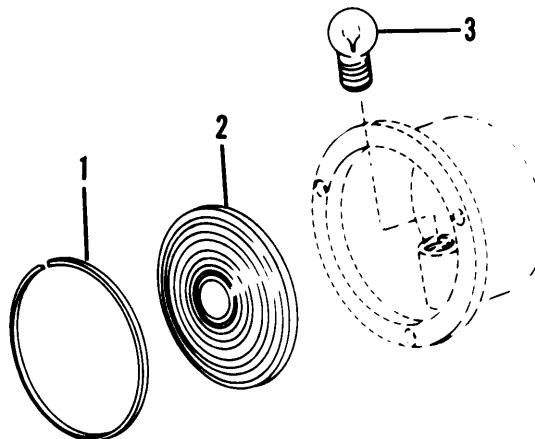

Figure 4-11. Taillight Assembly (M871 only)
(1) Remove snap ring (1, fig. 4-11).
(2) Remove lens (2).
(3) Remove light bulb (3).
- (1) Install light bulb (3, fig. 4-11).
- (2) Install lens (2).
- (3) Install snap ring (1).